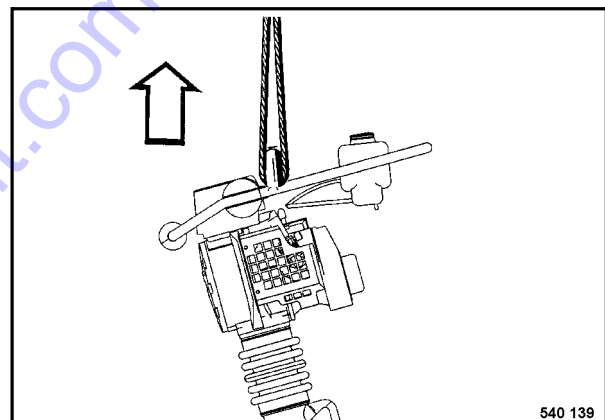

Fig. 1
- To load the tamper attach the lifting gear to the transverse bar on the guide bow (Fig. 1).